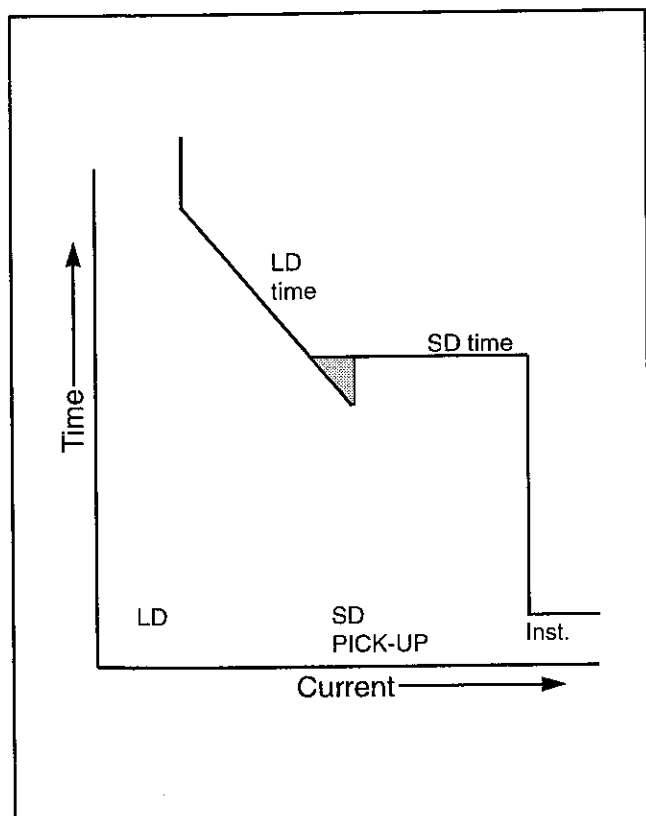

Figure 3-11 Typical LS Curve With I^2T Slope
Note that the scope of protection offered by the Digitrip MV Trip Unit is a coordinated effort. This is especially true when a number of protective functions, such as long time and short time protection are combined into one cooperative curve. *Figure 3-11* shows a typical time-current which has both long and short time protection, and an I^2T slope selected for the long delay time. Because of the pickup, time and slope selections made for this illustration, a triangle (shaded area on the illustration) is formed by the intersection of the different time and pickup lines. Internally, the Digitrip MV Trip Unit design looks at this particular curve as if the shaded triangular area does not exist. Therefore, in an actual performance situation, the phase short delay time function would take precedence over that portion of the phase long delay time line forming the one leg of the triangle. This does not create a problem from a protection or coordination standpoint. In fact, it is recommended on certain applica-
- 3) The internal design of the Digitrip MV Trip Unit is such that the Phase Short Delay Time setting might take precedence over the Phase Long Delay Time. This is graphically illustrated in *Figure 3-11*